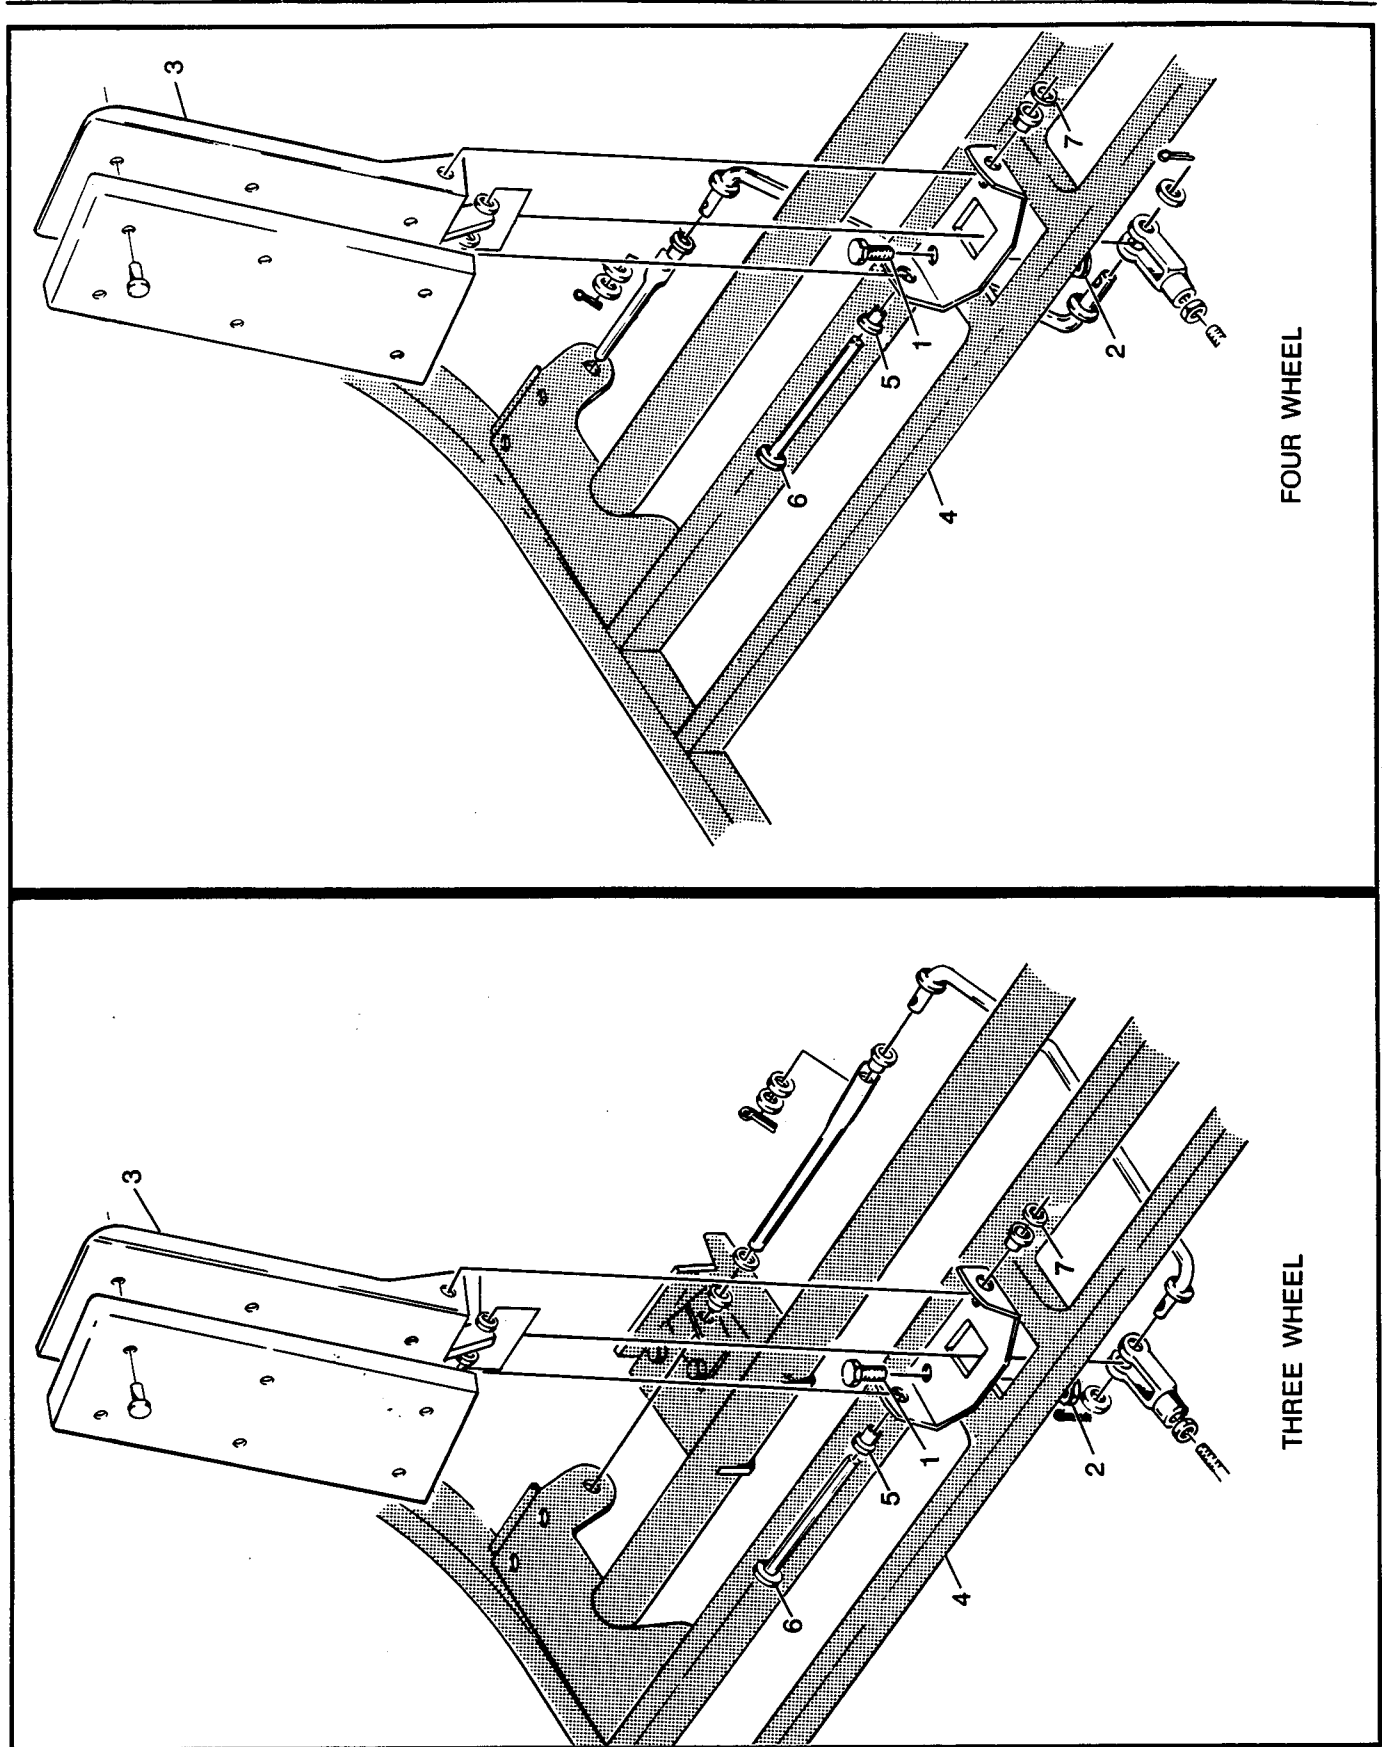

FIG. F-3 ACCELERATOR PEDAL REMOVAL
**NOTE:** If vehicle has been driven under adverse conditions, some difficulty may be encountered when attempting to slide the barrel of the ball joint socket (14). If such difficulty is encountered, tap the barrel using either a straight blade screwdriver or an alignment punch and a hammer.
**ACCELERATOR PEDAL REMOVAL (Fig. F-3)**